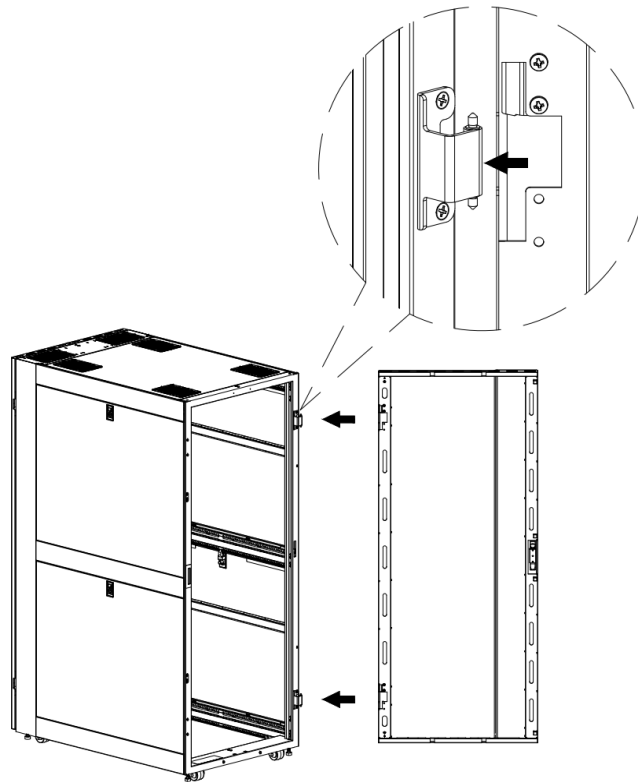

Figure 6.3.3
- Place the door panel to approximately 110 degrees with the side panels and insert the frame hinge's male pin into the door's female hinge. (Figure 6.3.3)